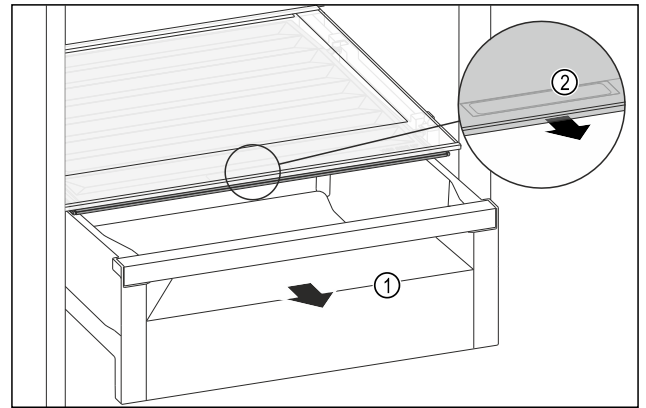

Fig. 123
- Pull out the drawer Fig. 123 (1).
- Grasp the recessed grip Fig. 123 (2) on the compartment lid and pull the compartment lid forwards at the same time.